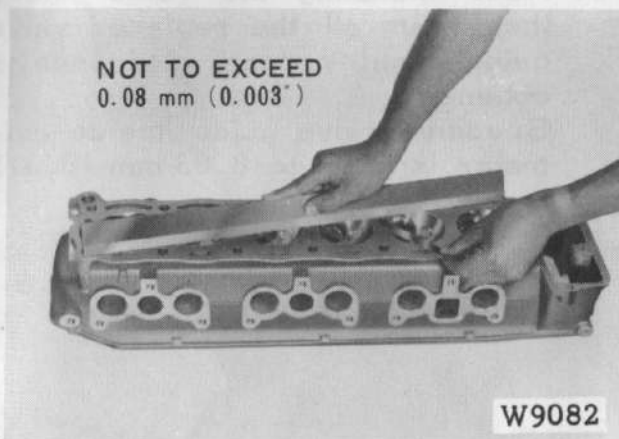

Fig. 2-27 Cylinder Head Surface Flatness Inspection
3. Check the cylinder head surface for flatness as illustrated in figure 2-27.